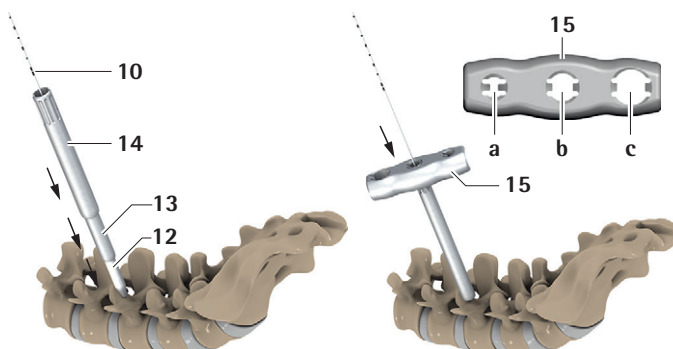

Fig. 6
- ▶ Remove dilators **12** (and **13** and **14** as applicable) over the K-wire, see Fig. 6.